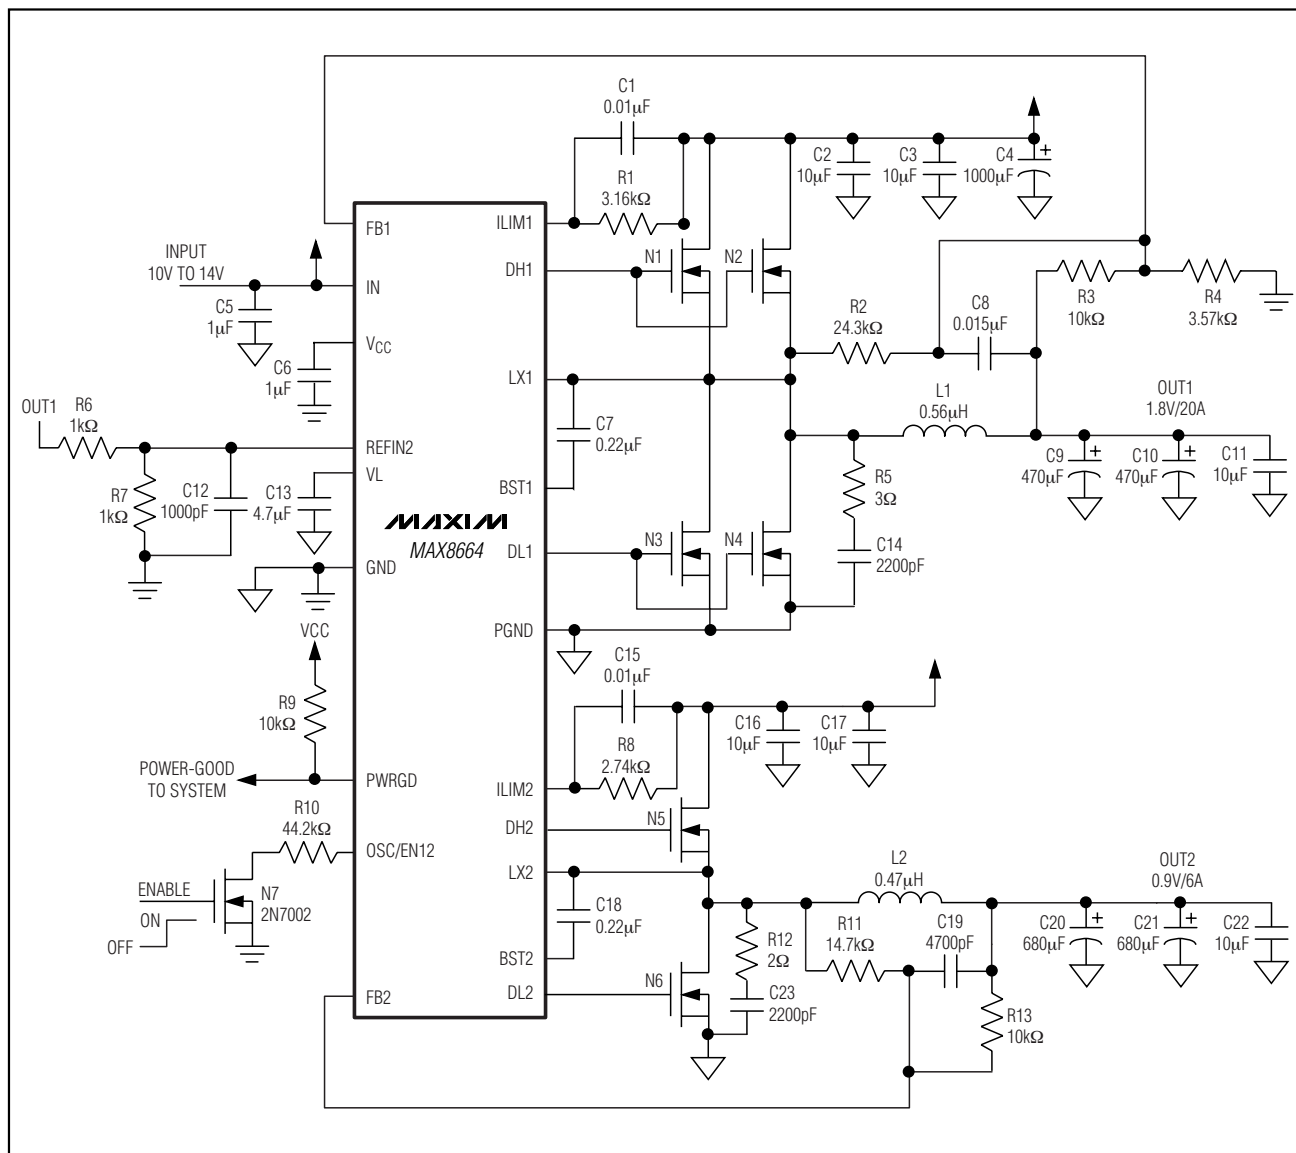

Figure 3. 500kHz Tracking Circuit for DDR2 Applications
**Table 3. Component List for Figure 3**